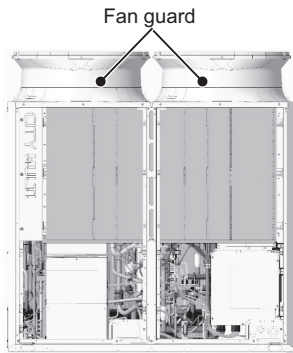

Figure 8
- (10) Remove the fan guard. (12 screws, Figure 8)